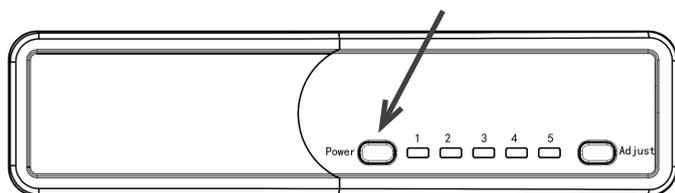

Fig. 6
1) Press and hold the power button 3S to turn off the refrigerator (Fig. 6)